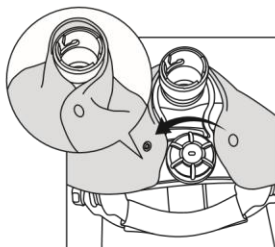

Fig.6b
Step 2: Buckle up the button at back side of extended hood (See fig.6b).